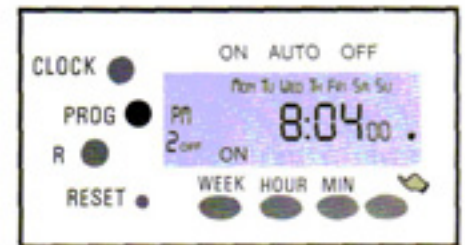

Figure 10
- 2.12 Repeat steps 2.2 through 2.9 for programming the timer for all "ON/OFF" Programs. (Maximum 8 ON/OFF programs) (See Figure 10)